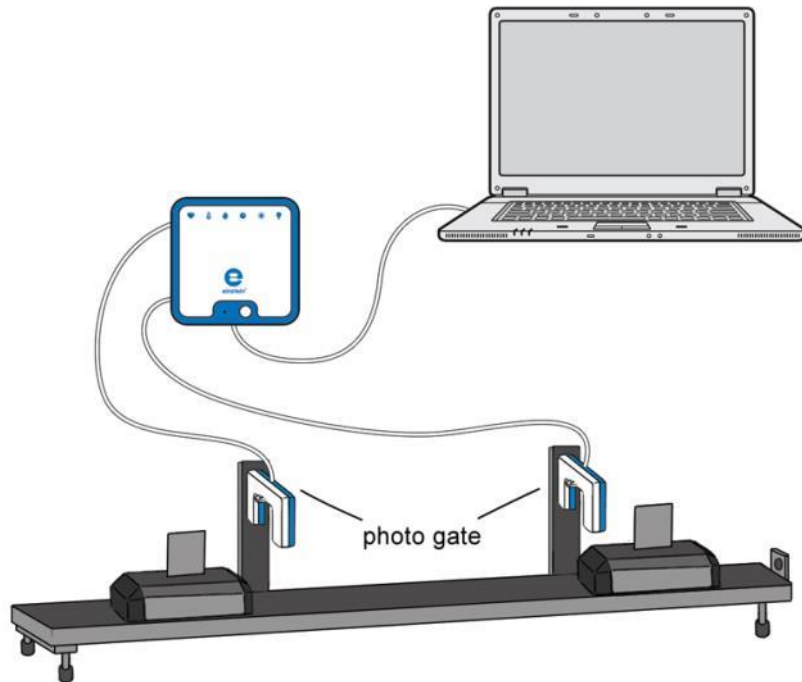

Figure 1
3. Assemble the equipment as shown in Figure 1.
4. Attach a flag to each cart (see Figure 1).
5. Mount the Photogate sensors on the Dynamic Track using the brackets. Position the sensors about 20 – 25 cm apart along the track (see Figure 1) so that the flags block the Photogate sensors while passing through them.